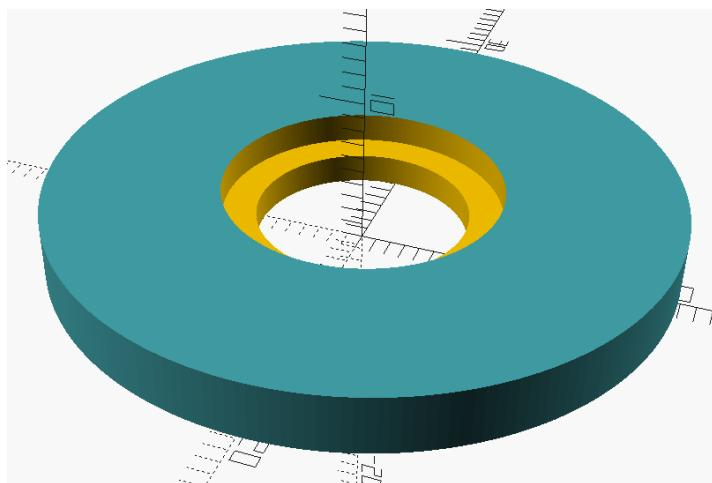

Figure 9.6 – 18 mm centering ring
5. As we want our code to produce 24 mm model rocket motors as well, we will add a new variable called `type`. If `type` is equal to 18 (as in 18 mm), we will generate an 18 mm centering ring (as in *Figure 9.6*); if not, we will generate a 24 mm centering ring. Change the code for the module `create_centering_ring()` and the call to this module to the following: